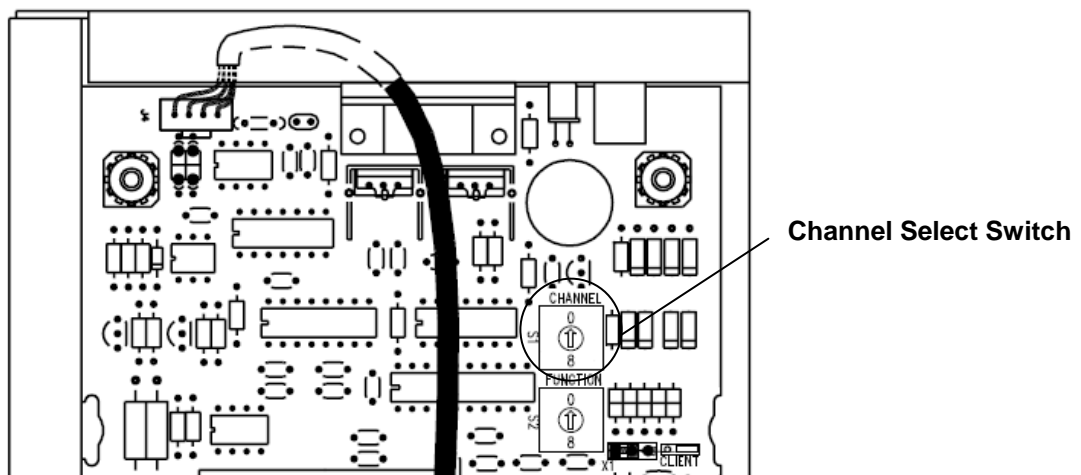

Figure 23: Channel Select Switch (Internal Receiver)
1. Use a small flathead screwdriver to set the S1 switch (**Figure 23**) to the desired channel (1-15).